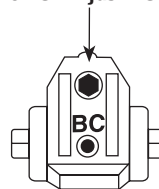

Figure 25
1. Using 1/8" hex wrench, turn power adjustment screw clockwise to increase door closing power. (Figure 25)